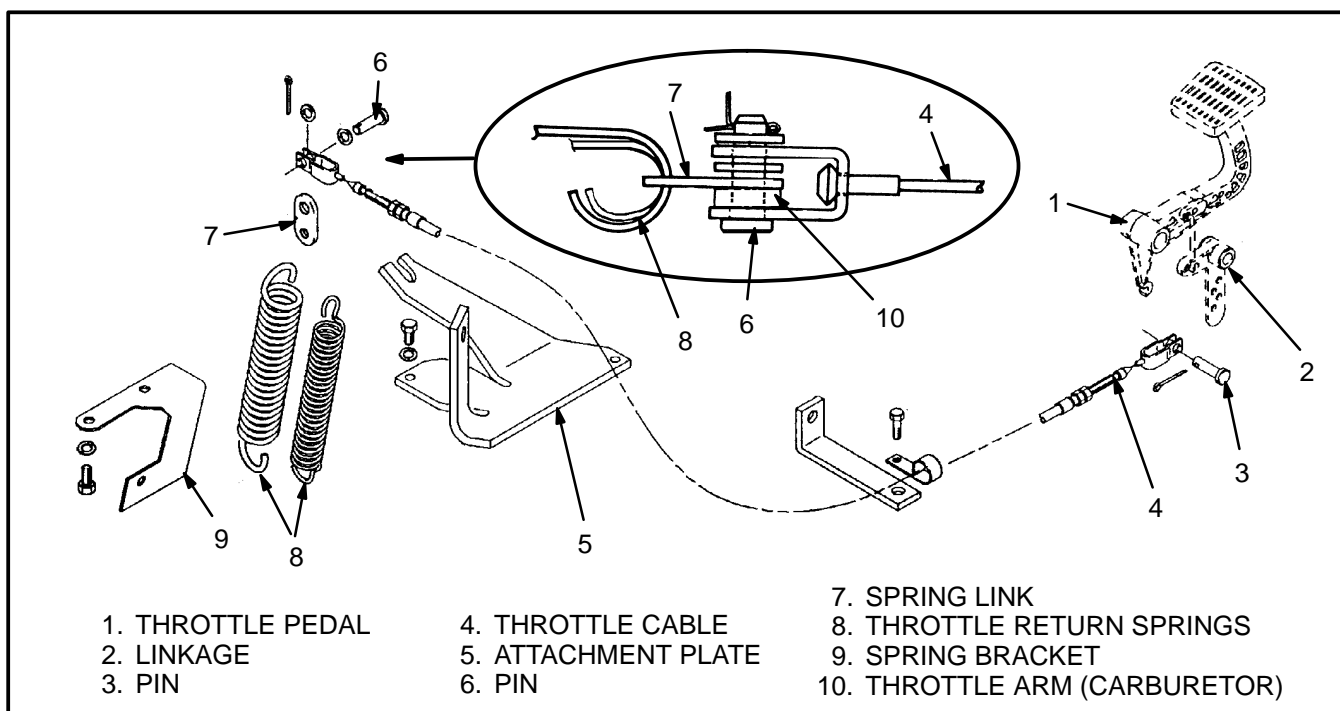

FIGURE 18. THROTTLE CABLE ARRANGEMENT
3. Connect the throttle linkage as shown in FIGURE 18. Make sure the head of the pin is toward the carburetor.
### ADJUST THE THROTTLE LINKAGE (See FIGURE 18.)